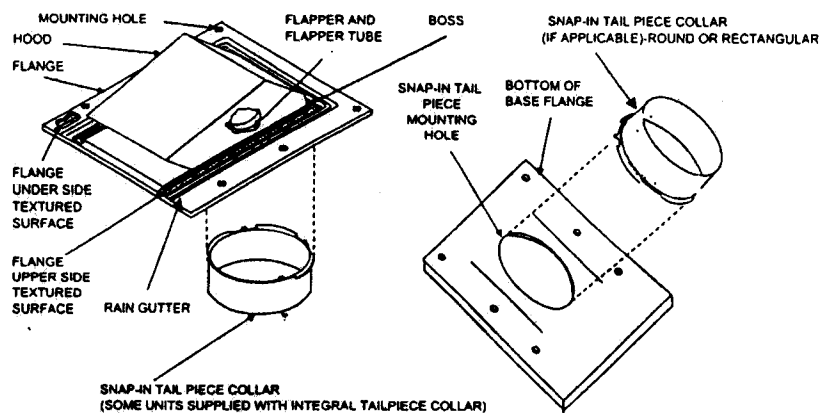

Figure 1. Roof Cap, Installation Part Locations
2. If applicable, center and snap the tabs of the snap-in tail piece into the hole in the base (Fig 1) and firmly press the snaps into position. If necessary, gently rotate the snap-in tail piece back and forth to help seat it in the base. Make certain that the attachment is secure.
- b. Apply a continuous 1/4- to 3/8-inch bead of asphalt adhesive sealant to the textured surface that runs through the center lines of the mounting holes on the underside of the roof cap flange. (See Figure 1.) Use just enough sealant adhesive to seal against water leakage; application of too much sealant can cause damage or distortion to roofing materials. When the roof cap is being installed on "architectural" shingles, determine the size of the adhesive sealant that will provide an acceptable seal.
11. Apply a continuous 1/4- to 3/8-inch diameter bead of adhesive sealant to the textured surfaces that are located at the sides and rear of the hood on the upper side of the roof cap flange. Be careful to maintain the bead of adhesive sealant within the textured surfaces in order to avoid damaging the rain gutters. (See Figure 1.) Make certain that sufficient adhesive sealant bead is applied between the upper textured surfaces of the roof cap flange and the shingles to prevent water seepage into unprotected portions of the roof below.